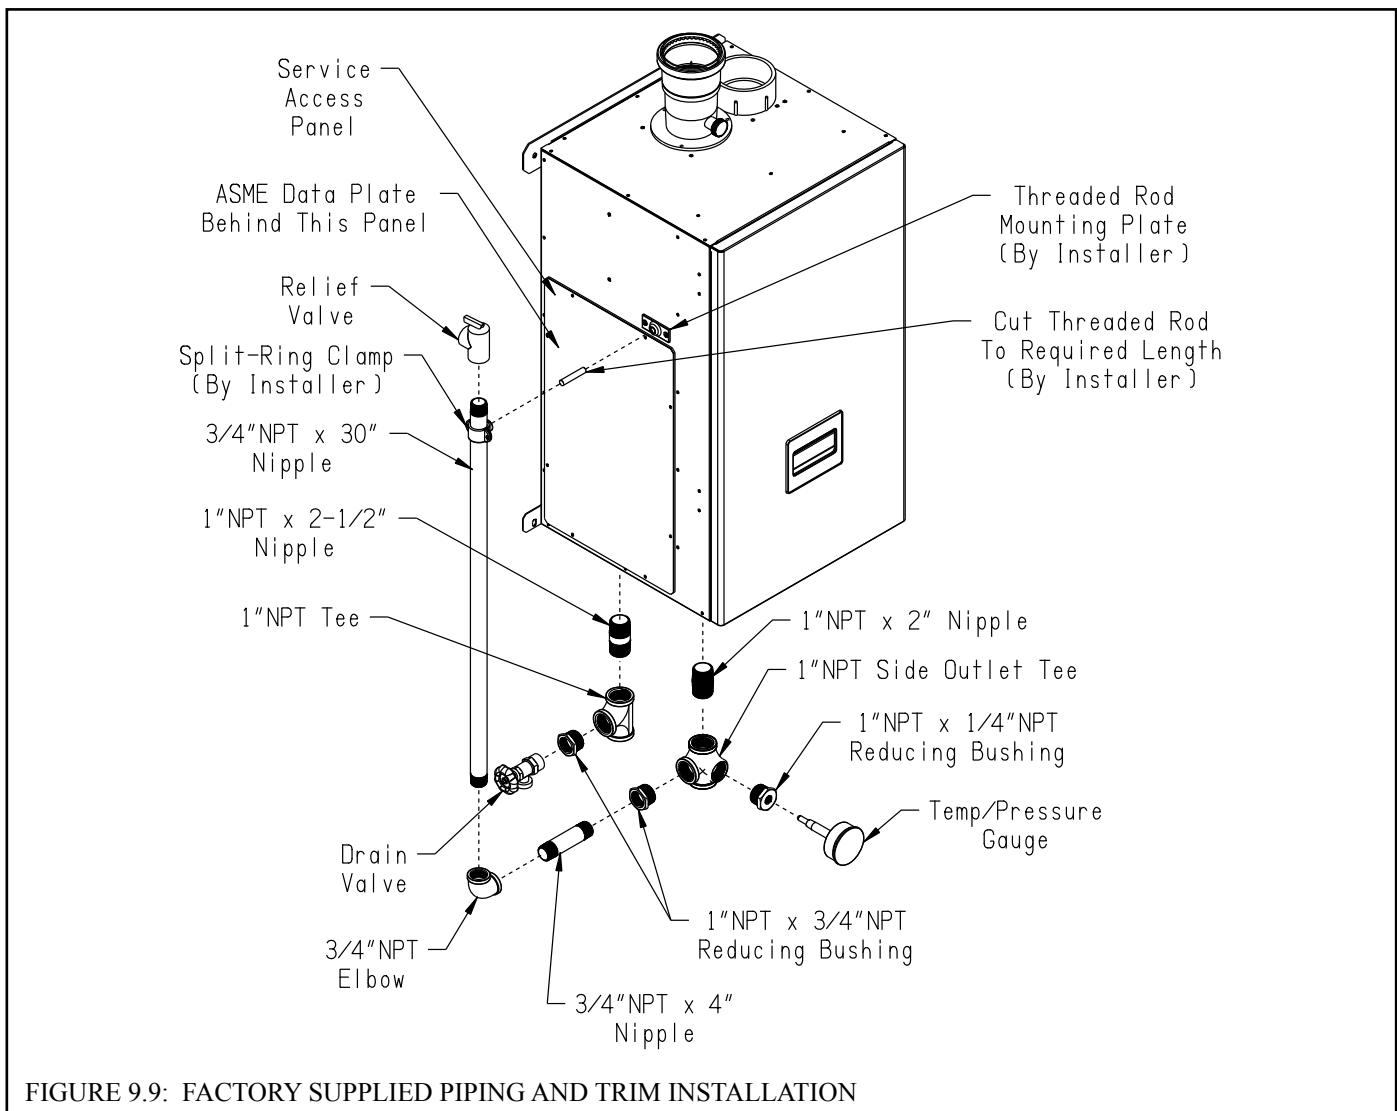

FIGURE 9.9: FACTORY SUPPLIED PIPING AND TRIM INSTALLATION
- 1) Relief Valve (Required) – The relief valve is shipped loose and must be installed in the location shown in Figure 9.9, using the side outlet Tee and other fittings provided. ASME Section IV currently requires that this relief valve be installed above the heat exchanger as shown. Pipe the outlet of the relief valve to a location where water or steam will not create a hazard or cause property damage if the valve opens. The end of the discharge pipe must terminate in unthreaded pipe. If the relief valve discharge is not piped to a drain, it must terminate at least 6” above the floor. Do not run the discharge piping through an area that is prone to freezing. The termination of the relief valve must be in an area where it is not likely to become plugged by debris.
The relief valve supplied with the boiler is set to open at 30 psi. If it is replaced, the replacement must have a setting less than or equal to the maximum allowable working pressure (MAWP) shown on the ASME data plate located on the left side of the heat exchanger behind the service access panel (Figure 9.9).
- 2) Gauge (Required) - Indicates supply water pressure and temperature. This gauge is shipped loose. Install it as shown in Figure 9.9.
10) Drain Valve (required) – Install the drain valve supplied as shown in Figure 9.9.